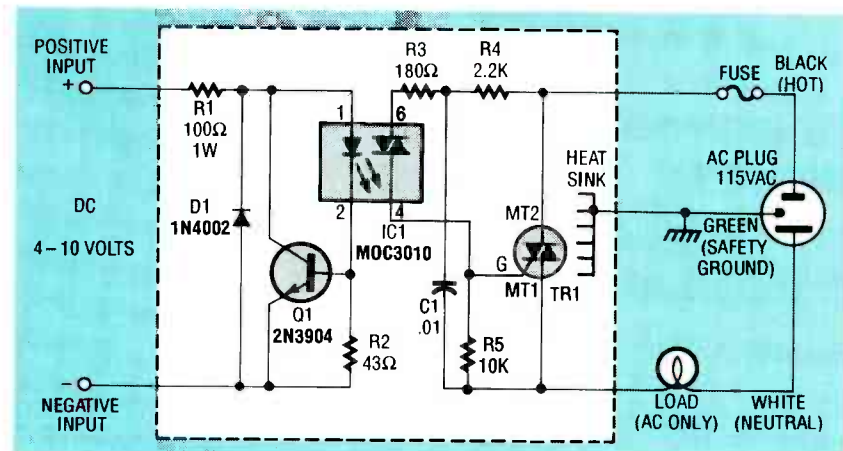

FIG. 2—SSR CIRCUIT. Diode D1 protects the unit if you connect the input backward, and R1 limits the input current.
FIG. 2—HIGH-POWER OUTPUT SECTION. An output from the microcontroller is passed through a 1N914 diode, a 120-ohm resistor, an MOC3010 Triac-driver optocoupler, and finally to a high-power Triac.
sure to ground it to the AC safety ground as shown in Fig. 2, and also properly ground all eight AC outlets.
Our SSR circuit is shown in Fig. 2. Diode D1 provides protection in case you connect the input backward. Resistor R1 limits the input current. If you would like to use an SSR that requires a large input voltage (to increase the noise immunity) you can make R1 a large value. If you make R1 470 ohms, the relay will need about 12 volts to turn on. The power rating of R1 is a function of the maximum input voltage. For inputs up to 10 volts, a 1-watt resistor is needed.
The two PC boards can be made using the foil patterns we've provided, or they can be purchased from the source mentioned in the Parts List. Point-to-point wiring can also be used. Parts-placement diagrams for the analog and digital boards are shown in Figs. 2 and 3, respectively.
note that R20 and D1 (shown on the analog board in Fig. 2) are to be installed only if you wish to power the unit from a vehicle's 12-volt source.
**FIG. 2—PARTS-PLACEMENT DIAGRAM** for the analog board. Note the components that are optional for 12-volt use. Also note the four connections that must be made to the digital board (see Fig. 3).